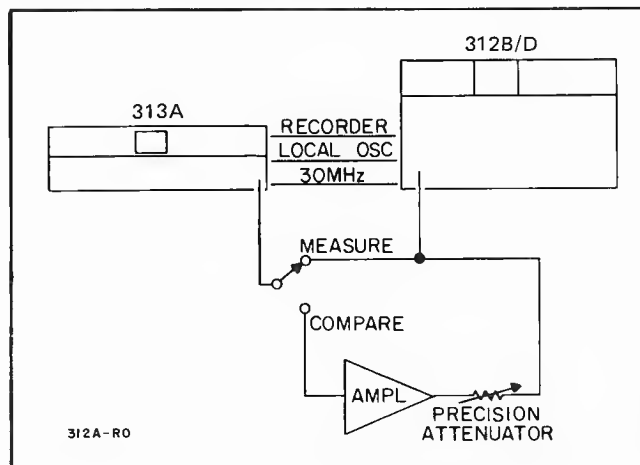

Figure 3-11. Flatness Test Setup.
3-65. The flatness of an amplifier or even an entire system can be accurately determined to within 0.1 dB when utilizing the 313A Tracking Oscillator and 312B/D. To test the flatness of a system, connect the equipment as shown in Figure 3-11 and set up the 313A to track the 312B/D meter indication (refer to the 313A Operating and Service Manual). If using a 312D, the meter switch must be set to NORMAL.
a. Place S1 (Figure 3-11) in the measure position and tune the 312B/D to the reference frequency.
3-66. For less critical applications flatness can be measured directly using the 312B/D and 313A. Set up the 313A for tracking operation and tune the 312B/D through the desired frequency range. Use the 313A attenuators in place of the precision attenuators in Figure 3-11.